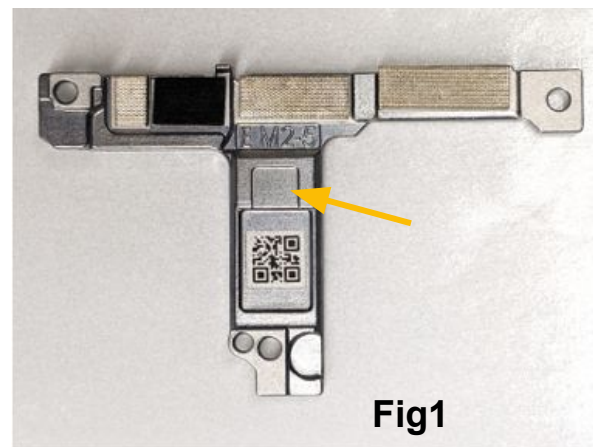
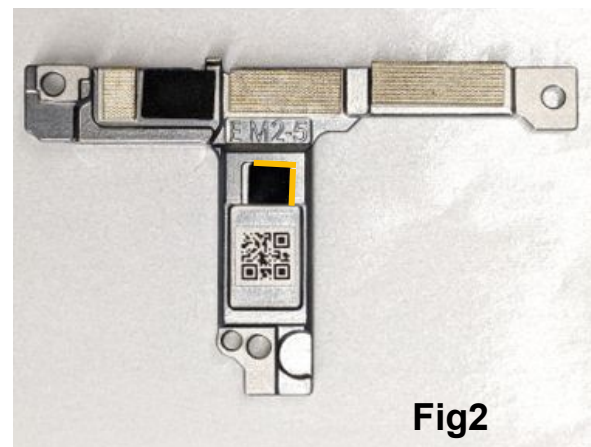

Fig1
Fig2
- Peel off the **mmWave flex adhesive liner**, align flex according to the outline to **Upper mid-frame**, and press down with an **ESD Stick** (Fig1).
- Make sure the flex is **NOT** overlapped with the **Upper mid-frame** (Fig2 is good; Fig3 is NG). Otherwise, it may lead to display abnormal, such as bright dots (Fig4).
- Check the sponge in **Upper mid-frame**. If there's no **sponge (Fig1)**, paste the sponge by the alignment line, like the **(Fig2)**.